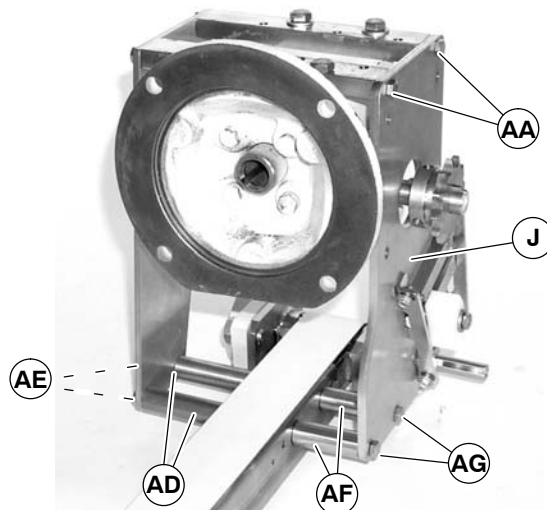

Figure 6
The lengths of spacer tubes (AF of Figure 6) and hex head cap screws (AG) are based on conveyor width. The proper lengths are provided with the drive mounting package.
3. Loosen two screws (AA) on each side of top mount assembly (J). Attach top mount assembly to conveyor with two 1.758" (44.7mm) long spacer tubes (AD) and M6 x 65mm hex head cap screws (AE), and two spacer tubes (AF) and screws (AG). Tighten all screws to 92 in-lb (10.4 Nm).